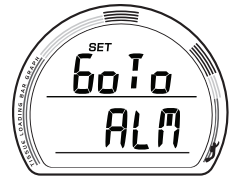

Fig. 30 - SET ALARMS
**SET ALM LEAD-IN**, information includes (Fig. 30):